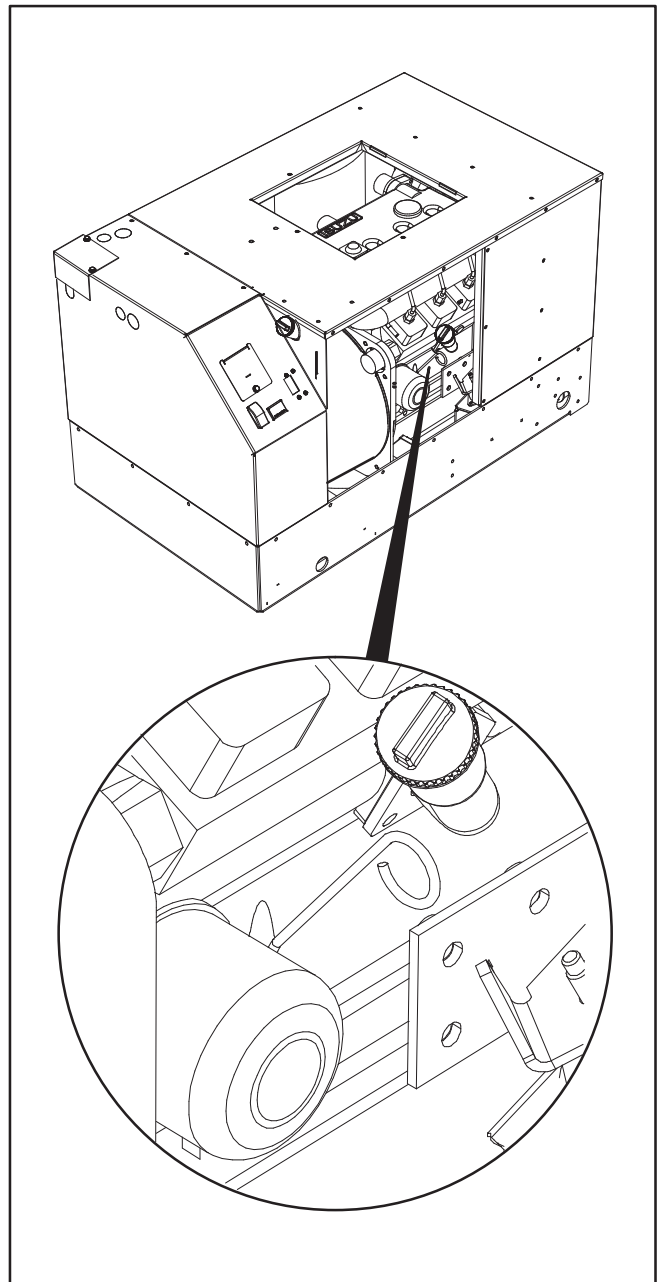

FIGURE 6. CHECKING ENGINE OIL LEVEL
2. Pull out the oil dip stick, wipe it clean, reinsert it and pull it out again to check the oil level (Figure 6).